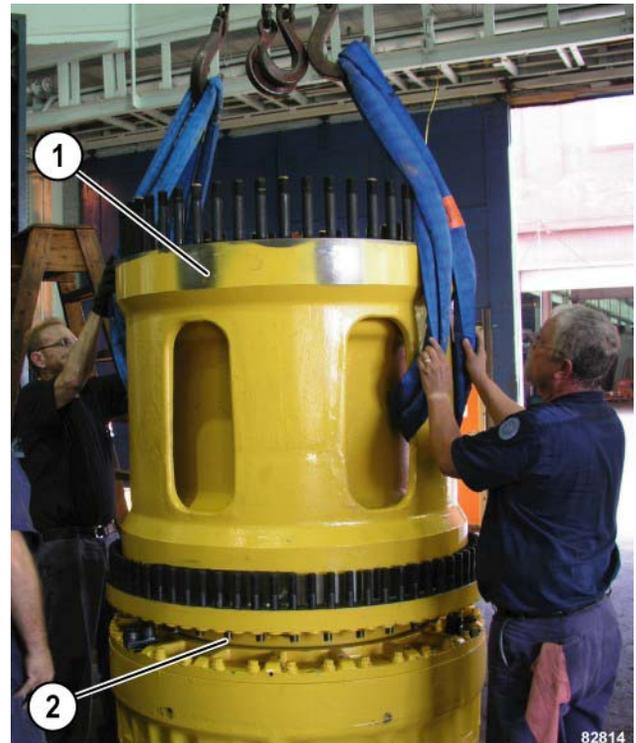
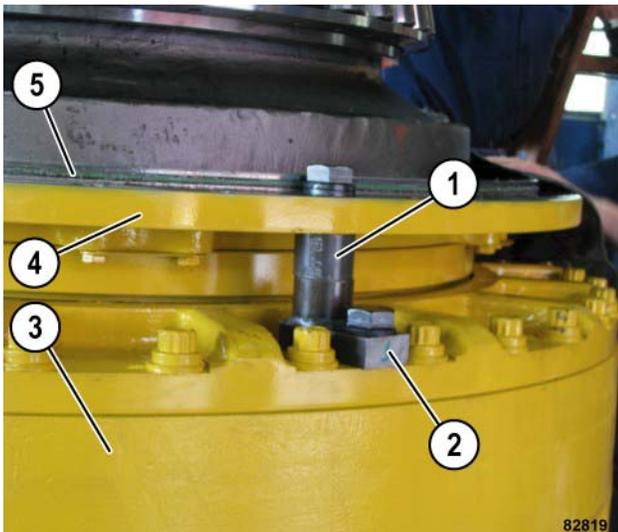

FIGURE 50-41.
FIGURE 50-42.
24. Remove 36 nuts (2, Figure 50-41) that secure hub (1) to the assembly.
25. Loop two lifting straps through the access slots in hub (1) 180° apart. Attach a hoist to the lifting straps and lift the hub from the assembly. The outer bearing will be removed with the hub. The weight of the hub and bearing is approximately 2350 kg (5180 lb).
26. Install three brake tools onto the brake as shown in Figure 50-42. The brake tools provide support to keep the inner face seals from being damaged.
- Locate the three open threaded holes on the top plate of brake assembly (3, Figure 50-42). The three holes are 120° apart.
- Position brake tool (2) onto the brake and secure with a cap screw.
- Slide spacer (1) between the brake tool and hub adapter (4). It may be necessary to pry up on the hub adapter to provide adequate clearance. Install a cap screw through the hub adapter and brake tool. It may be necessary to rotate the wheel. If this is necessary, the parking brake will need to be released by using a port-a-power. Parking brake release pressure is 8 653 kPa (1,255 psi). Do not exceed 12 755 kPa (1,850 psi).